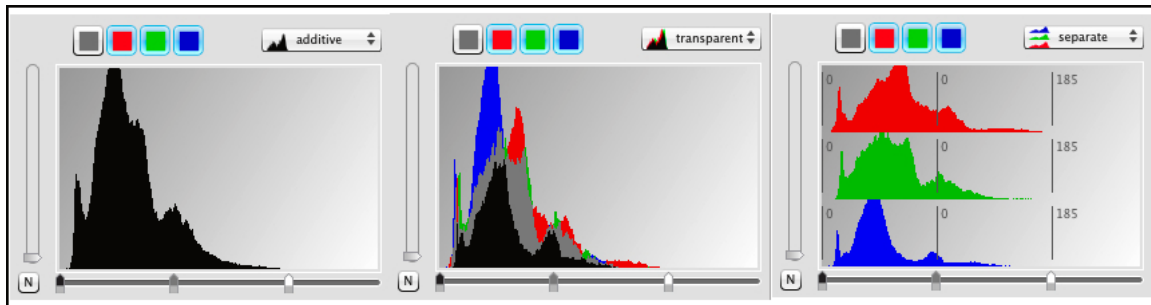

Figure 1.1 Histogram Display Modes
1. **Additive/Transparent/Separate switchable display modes:** In **Ai Studio** you have access to three different views of the histogram (Figure 1.1):
As a colour photo is made of three channels in a Red-Green-Blue (RGB) colour system, the histogram of each channel can be displayed for a yet fuller understanding of the distribution of the three primaries along the tone scale. In the **SE** and **SE+** versions you get the **Additive** view (Figure 1.1, left) or each individual R, G, or B channel, one visible at a time; in the **Ai Studio** version you also get the **Transparent** and **Separate** views (Figure 1.1, middle and right), showing the individual colour channels overlaid or separated. I often prefer using the **Separate** view to verify whether or not I am clipping away information from the highlight and shadow ends in any of the colour channels while making edits.